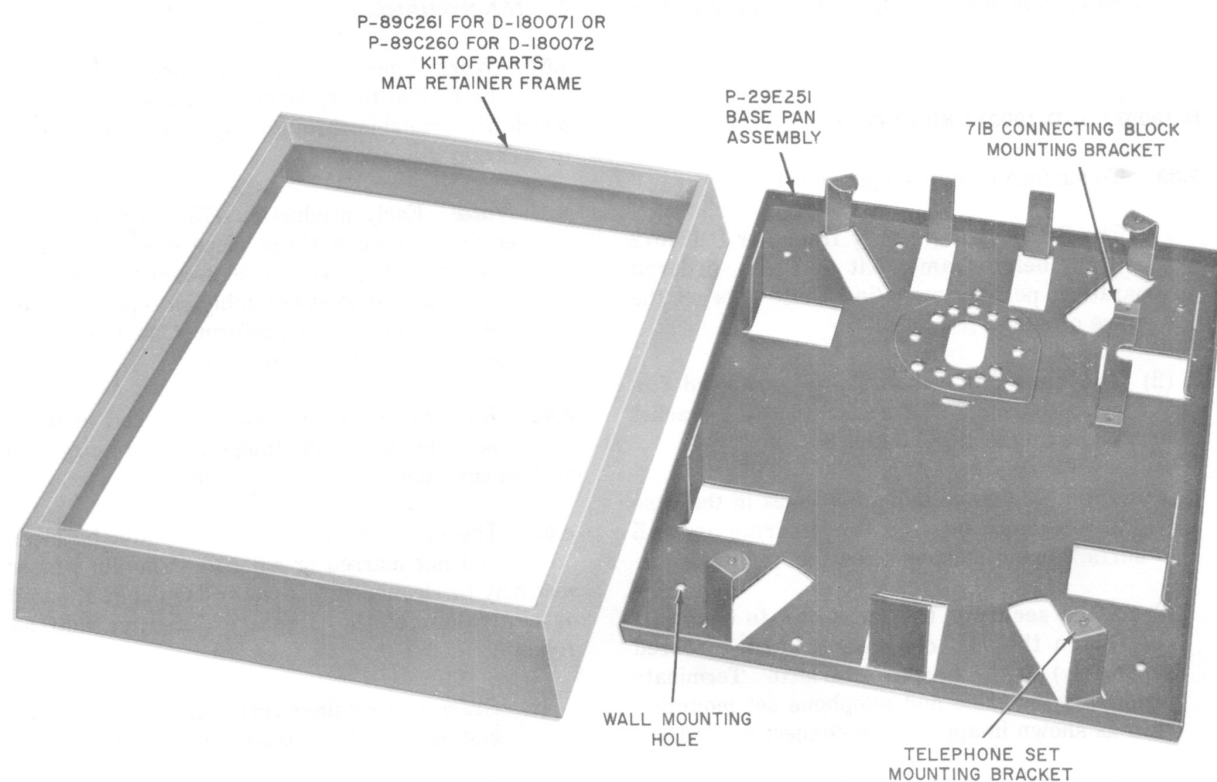

Fig. 2—D-180071 or D-180072 Kit of Parts For Surface Mounting
(1) The D-180071 (light gray frame) or D-180072 (light beige frame) Kit of Parts, ordered separately, permits mounting these sets on the surface of a wall (Fig. 2).
(2) The base pan assembly is arranged for mounting on a 63A or KS-19407L1 bracket or a standard electrical outlet box.